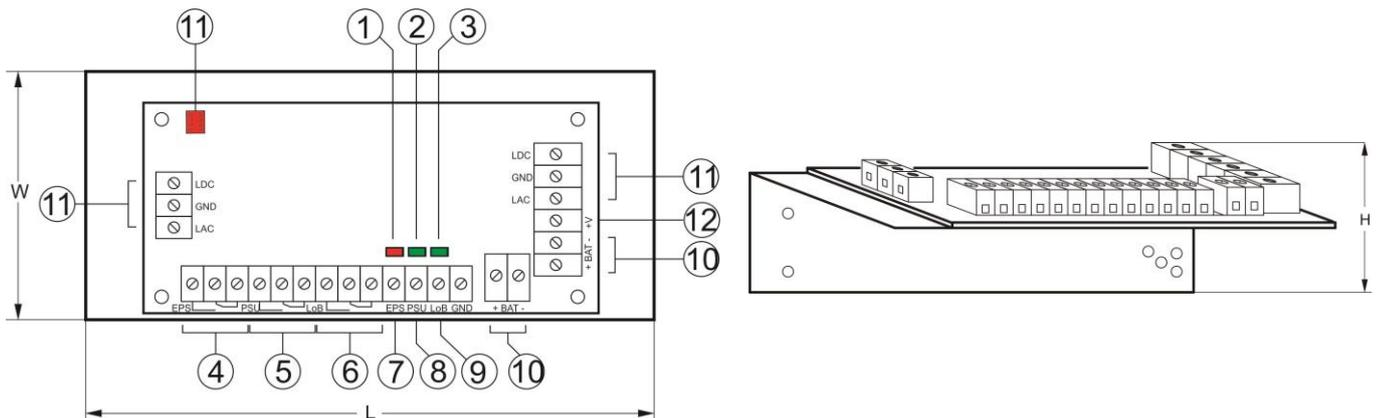

Fig. 1. The view of the module.
1.2. Description of the module's components and connectors (fig1, tab.1)
LED indication : - presence of AC power - presence of DC voltage at the PSU output - battery voltage level	<p>- red LED (fig.1, element 1). Under normal status (AC supply) the diode is permanently illuminated. The absence of AC supply is indicated by the AC diode going out. Caution: the LED indicates absence of AC power if the loss lasts minimum 10s.</p> <p>- green LED (fig.1, element 2) indicates DC power at the PSU output. Under normal status the diode is permanently illuminated. In case of a short circuit or an overload, the diode is off.</p> <p>- green LED (fig.1, element 3) indicates battery voltage level. Under normal status ($U_{BAT} > 23V$) the diode is permanently illuminated. In case of decrease of battery voltage ($U_{BAT} < 23V$) the diode is off.</p>